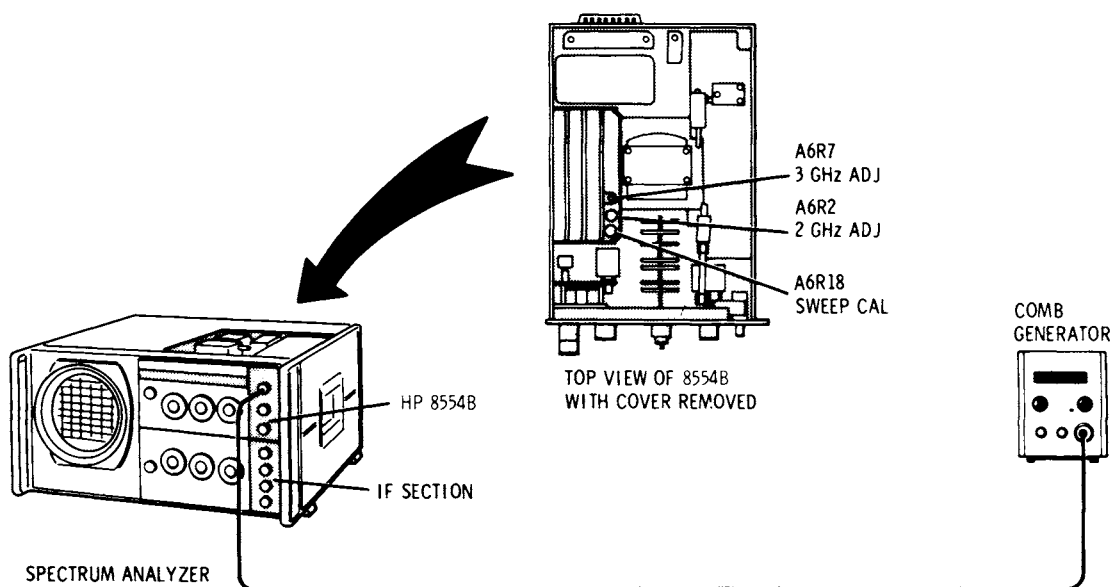

Figure 5-6. YIG-Tuned Oscillator Adjustment Test Setup
4. Connect the test setup in Figure 5-6 and make the following control settings: